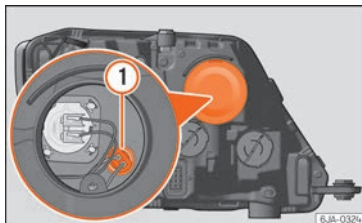

Fig. 90 Changing side light bulbs.
- Remove the protective cover »» **Fig. 90**.
- Remove the bulb holder »» **Fig. 90 1** by pulling it outwards.